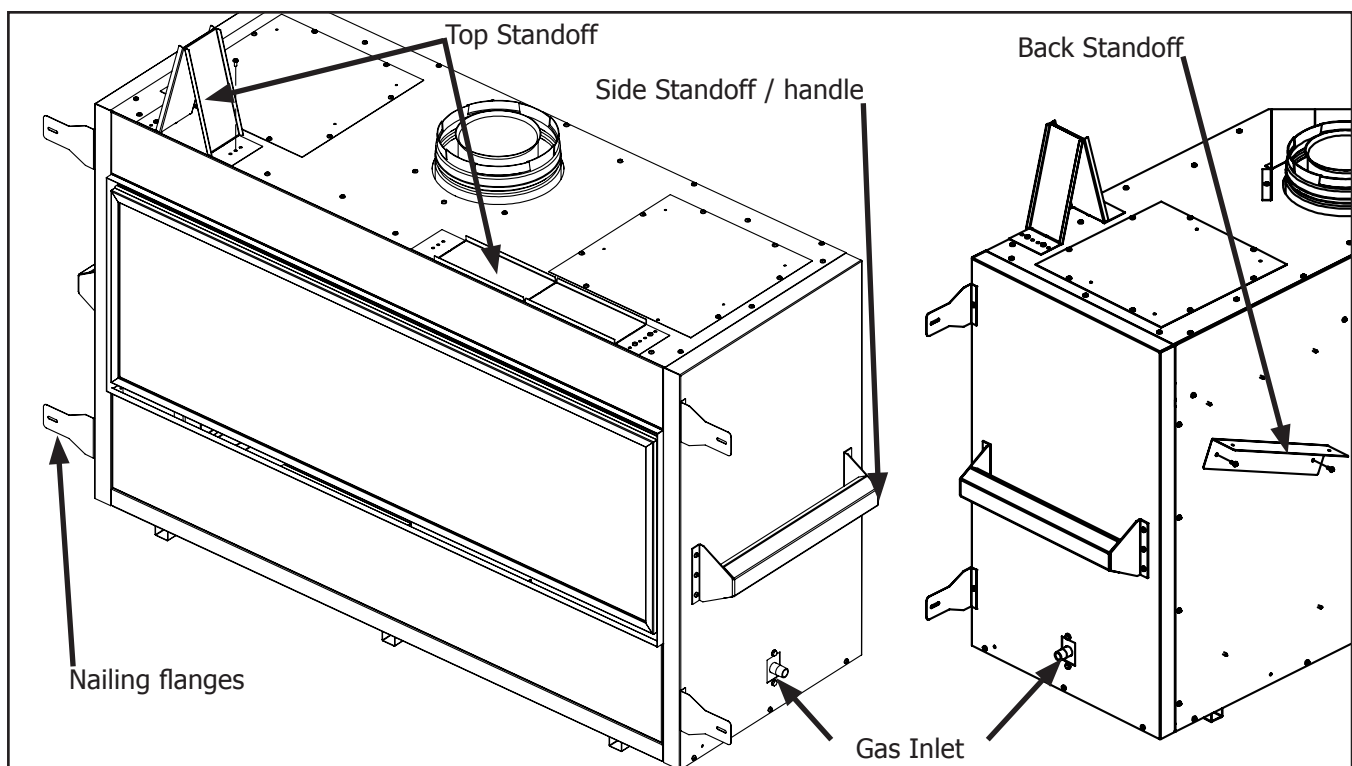

Figure 26: Fireplace Install Prep
Take a minute to familiarize yourself with Figure 26 below.
- The top framing standoff will need to be folded up and secured on one side with a T-20 screw, This can be seen in Figure 26.